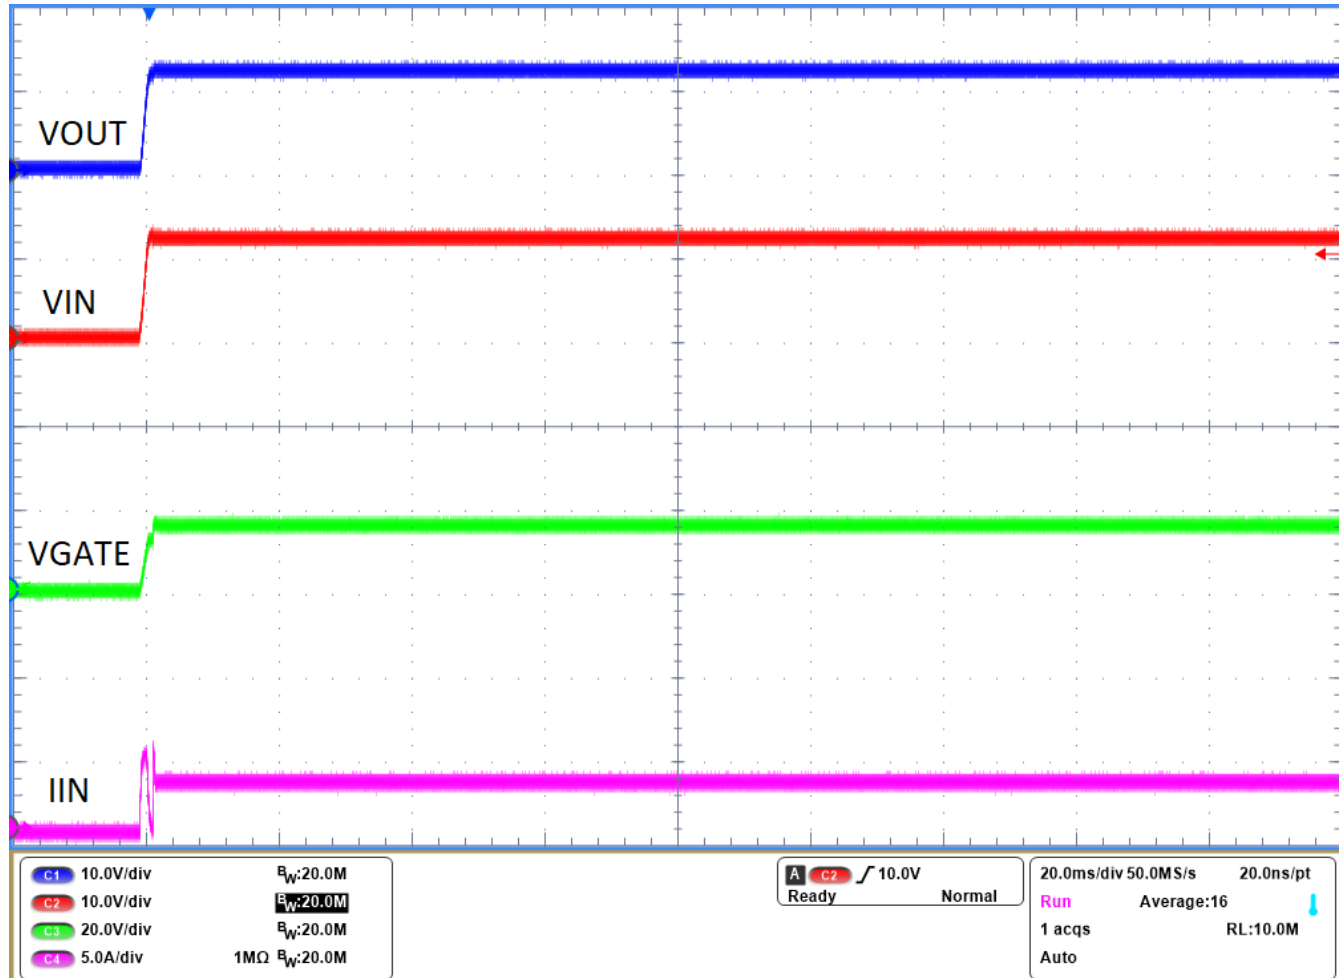

Figure 3-1. LM74701-Q1EVM Startup
- Figure 3-1 shows the input voltage (CH2) rises from 0 V to 12 V and the gate voltage (CH3) comes up after input voltage crosses device PoR threshold .